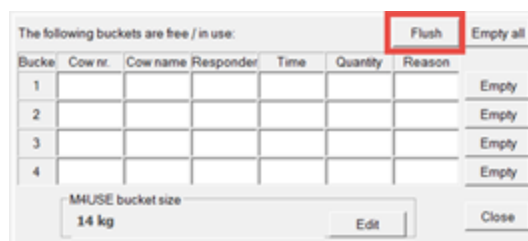

Figure 18. M4USE Flush
1. Button **Flush** (see figure 18 on page 4-3).